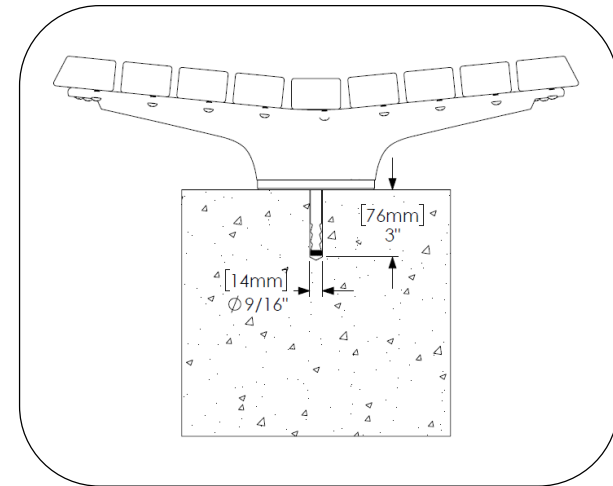

Fig. 1 – anchor hole size
3. Move unit and drill holes using 9/16" dia. drill bit, see Fig. 1.